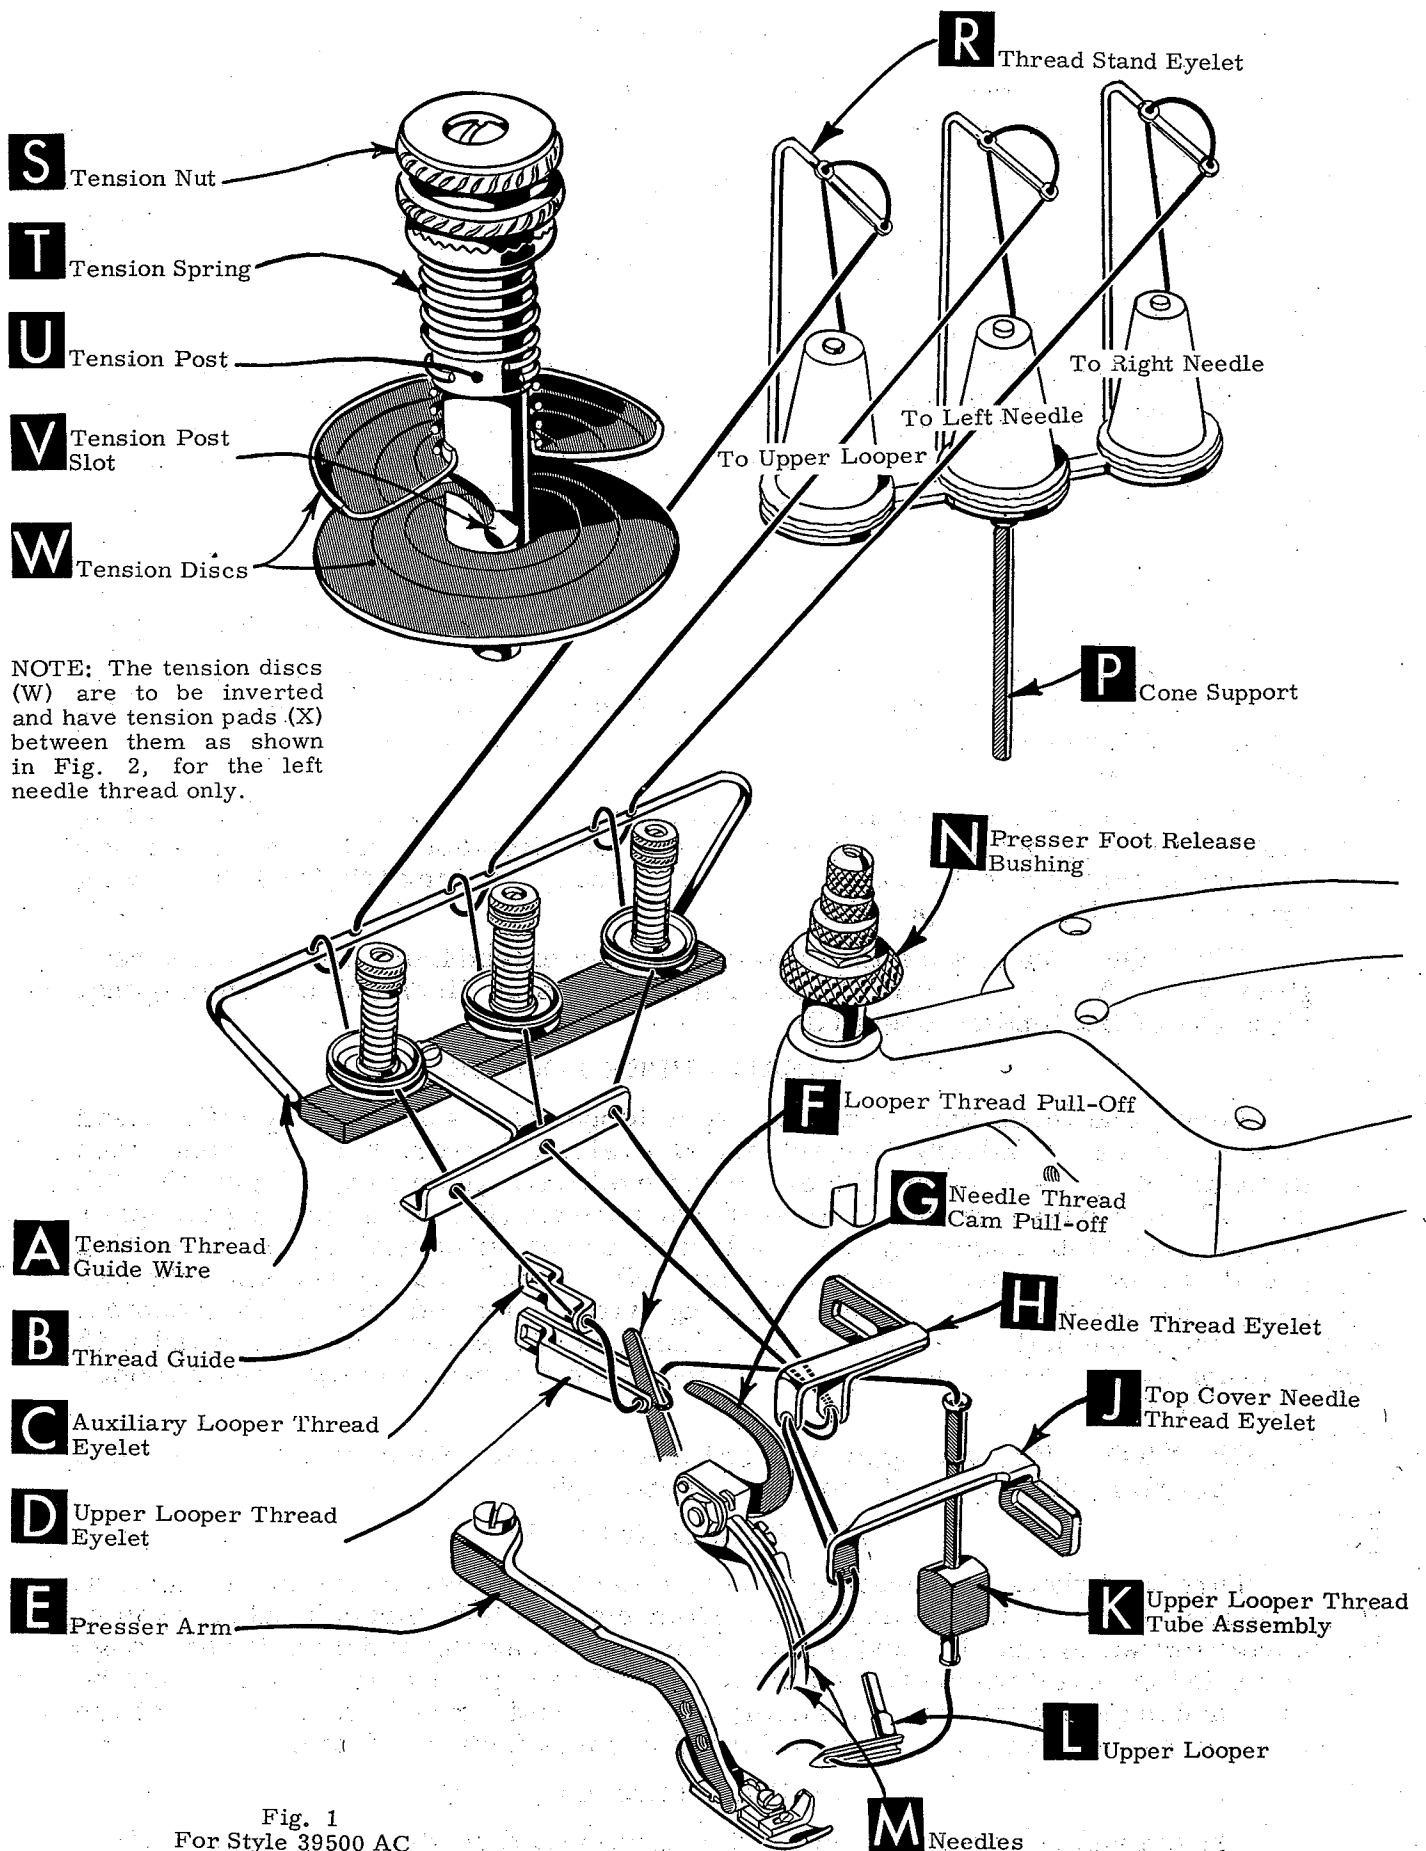
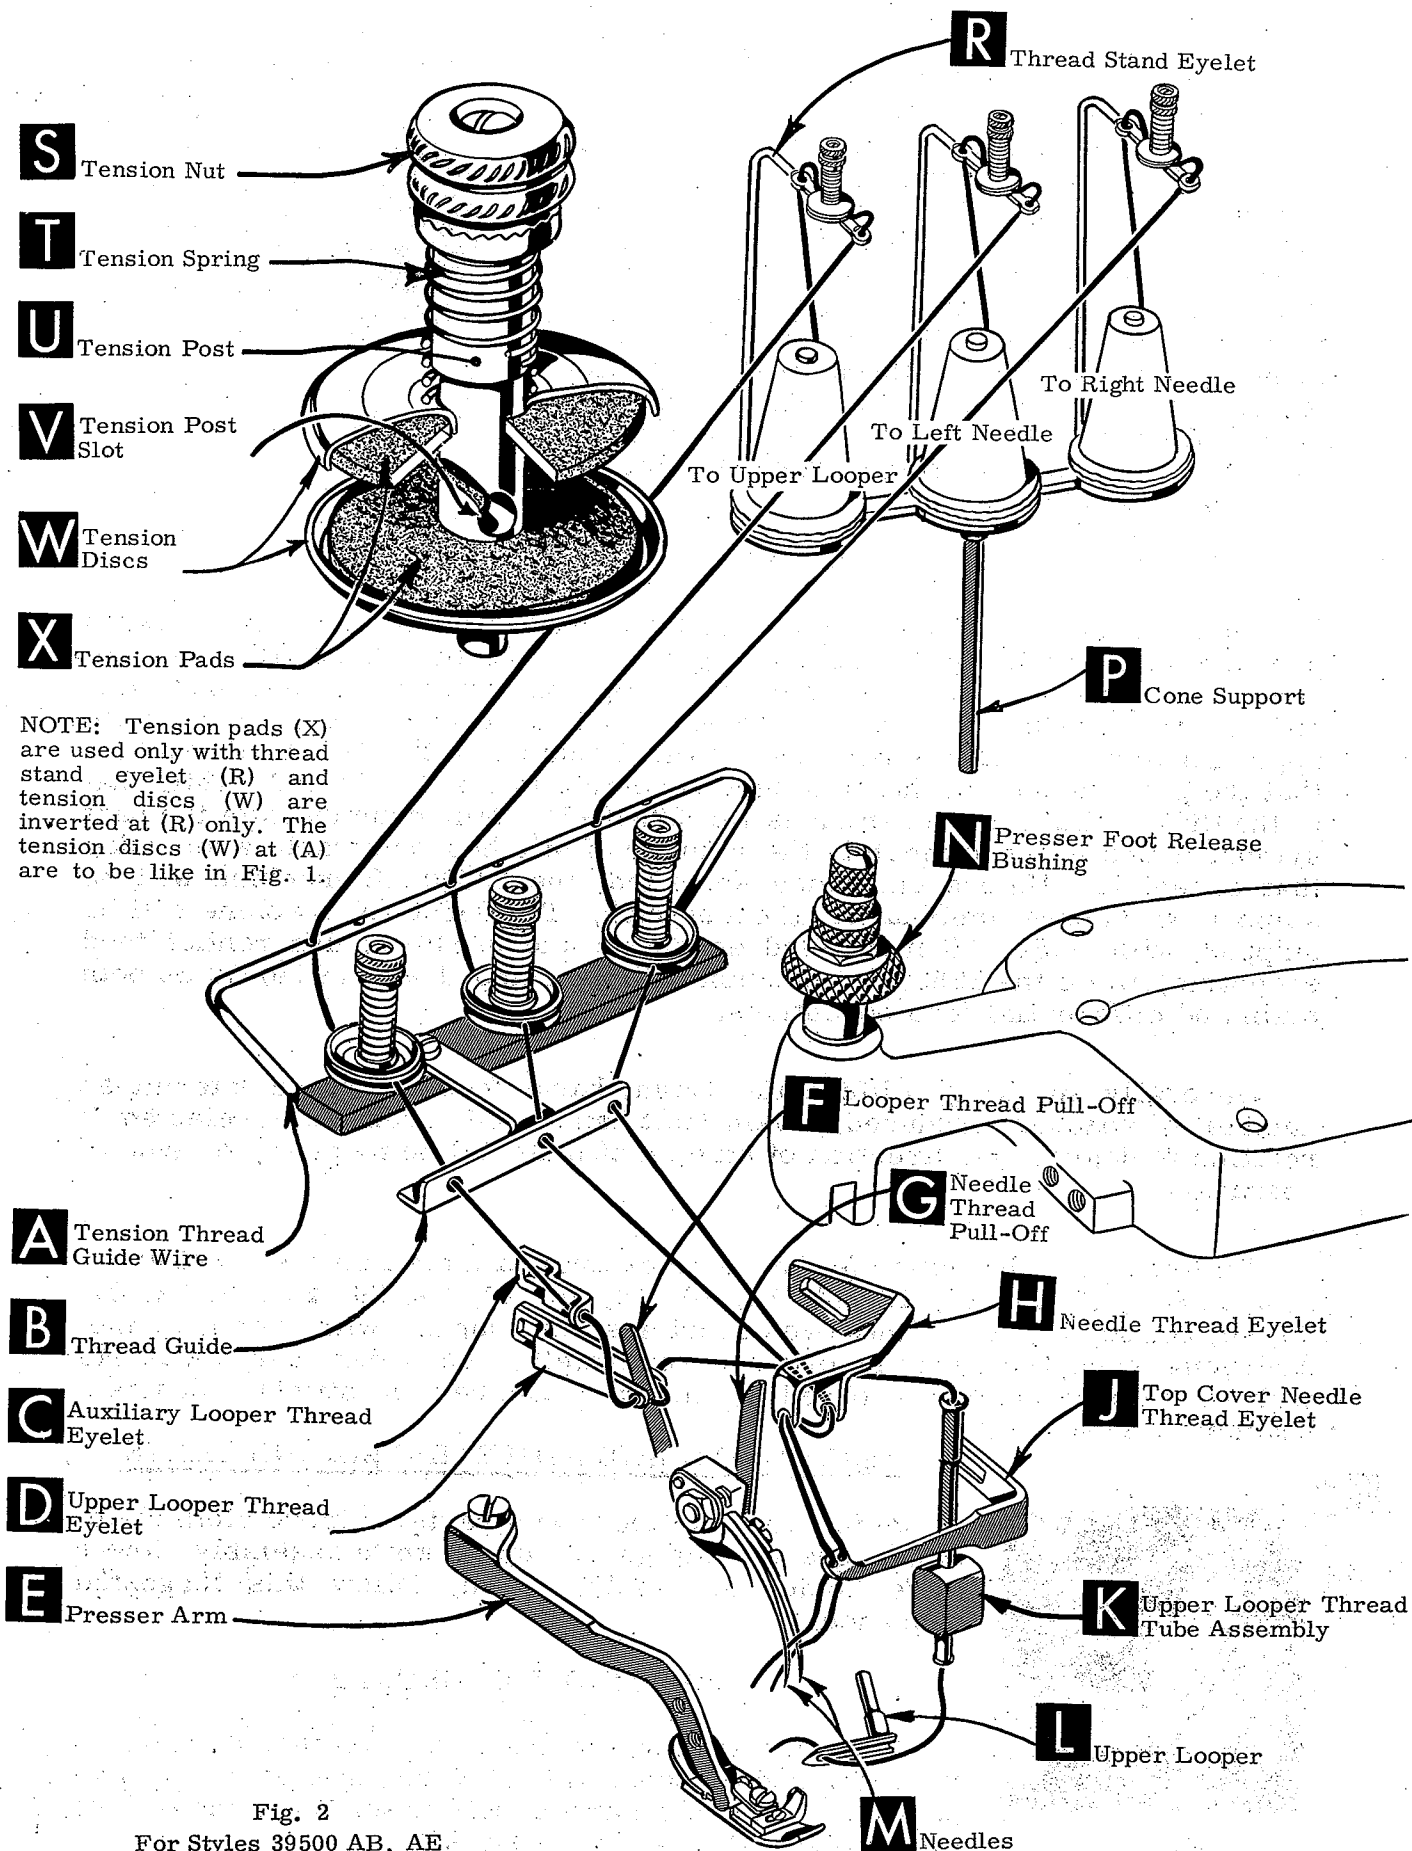

Fig. 1
Fig. 2
Release pressure on presser foot by turning presser foot release bushing (N, Figs. 1 and 2) and swing presser arm (E) out of position. Turn handwheel in the operating direction until needles are at their lowest point of travel. Using hexagonal socket wrench No. 21388 AU, furnished with machine, loosen needle clamp nut about 1/4 turn. Again turn handwheel until needles are at high position. Withdraw needles.
After thread comes from thread cones (positioned on cone support (P)), it is brought up through BACK thread eyelet, then down through FRONT thread eyelet (R, Fig. 1). Next, thread is extended down through the right hand hole and up through left hand hole of the tension thread guide wire (A). Thread is then continued between tension discs (W), through slot (V), and on through thread guide (B).
After thread comes from cones (positioned on cone support (P)), it is brought up through the BACK thread eyelet, then continues between felt pads (X) through slot (V), and down through FRONT thread eyelet (R, Fig. 2). Next, thread is extended down through the left hand hole in the tension thread guide wire (A), through holes in the thread guide (B).
Only parts involved in threading are shown in threading diagrams (Figs. 1 and 2). Parts are presented in their relative positions for clarity.
**CAUTION!** Make sure the threads, as they extend from the tension thread guide wire (A, Figs. 1 and 2), are between tension discs (W) and in diagonal slots (V) of the tension posts (U).
The amount of tension on the needle and looper threads is regulated by three knurled tension nuts (S, Figs. 1 and 2). Tension on threads should be only sufficient to secure proper stitch formation.
Be sure machine is threaded according to diagram for your style of machine (either Fig. 1 or Fig. 2). With thread tensions light, set looper thread eyelet (D, Figs. 1 and 2) about horizontal and back in its front to back location. Operate machine slowly, without presser foot in place, to make sure that chain forms and moves off the tongue freely. Swing presser foot into position, insert material, and sew slowly.
About 60% of needle thread is drawn from cones on needle down stroke. The remaining 40% is drawn on the upstroke. With needle at bottom of stroke, position needle thread eyelet (H, Fig. 1) so that needle thread cam pull-off (G) just contacts needle thread.
Usually, all needle thread is drawn on needle down stroke. At top of needle stroke, thread should be just tight enough to feed chain off stitch tongue. Needle threads tend to pull down slightly if excessive thread is pulled on the up stroke. With needles at bottom of stroke, position needle thread pull-off eyelet (H, Fig. 2) so that the needle thread pull-off (G) draws the proper amount of needle thread to satisfy the above conditions.
During needle down stroke, forward stroke of looper thread pull-off (F, Fig. 1 or Fig. 2) will draw upper looper thread through the tension. When normal amount of looper thread is drawn, upper looper thread will have almost all slack taken up as looper thread pull-off reaches its most rearward position.
If upper looper thread has a loose appearance in the seam, move looper thread pull-off eyelet (D, Fig. 1) forward and raise slightly. If, however, the eyelet is raised too high and moved too far forward, the looper thread will tend to break excessively--even with a minimum amount of looper thread tension applied.
If upper looper thread has loose appearance in the seam, move looper thread pull-off eyelet (D, Fig. 2) forward slightly. If, however, the eyelet is too far forward, the looper thread will tend to break excessively--even with a minimum amount of looper thread tension applied.
Raising and bringing the looper thread pull-off eyelet (D, Fig. 1) forward causes less thread to be pulled from the cones as the looper travels to the top of its stroke and causes the purl to form more on the top of the edge. If the eyelet is raised and brought too far forward, however, the thread becomes too tight, resulting in looper thread breakage. With a reasonable amount of looper thread tension to insure a flexible chain, the looper thread pull-off eyelet should be adjusted to position the purl as desired.
Moving the needle thread pull-off eyelet (H, Fig. 2) back causes less thread to be pulled from the cones as the needles travel to the top of their stroke and causes the purl to form more on the top of the edge. If the eyelet is moved back too far, however, the threads become slack at the top of the stroke and the chain will not feed off the throat plate tongue. With a reasonable minimum needle thread tension to insure uniformity, the needle thread pull-off eyelet should be adjusted to position the purl as desired.